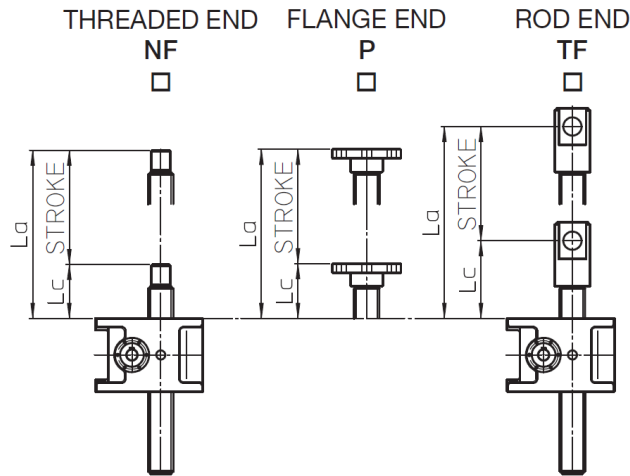

Figure 6.7 – “Lc” and “La” dimensions
FCM magnetic limit switches are supplied already fixed on extreme stroke positions L_c and L_a (see Fig. 6.7):
- Check if the extreme dimensions of the screw jack “Lc” and “La” (see Fig. 6.7) are compatible with extreme positions of the plant component that has to be moved.